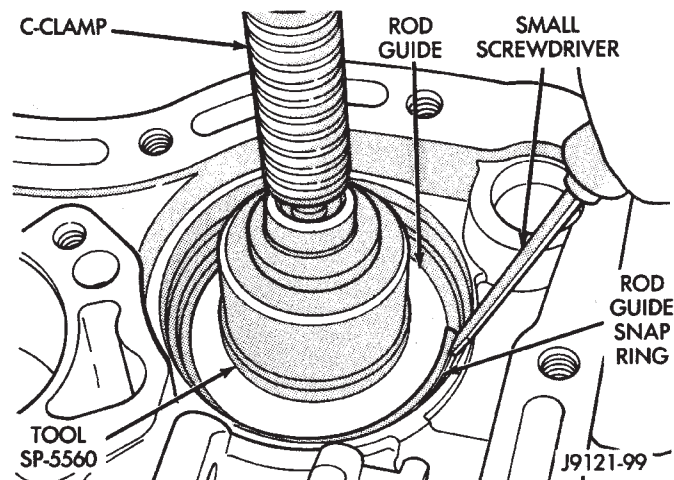

Fig. 125 Front Servo Rod Guide And Snap Ring
(a) Place Tool SP-5560 (or similar size tool) on guide and position C-clamp on tool and case (Fig. 125).
(9) Install rod guide snap ring (Fig. 125).